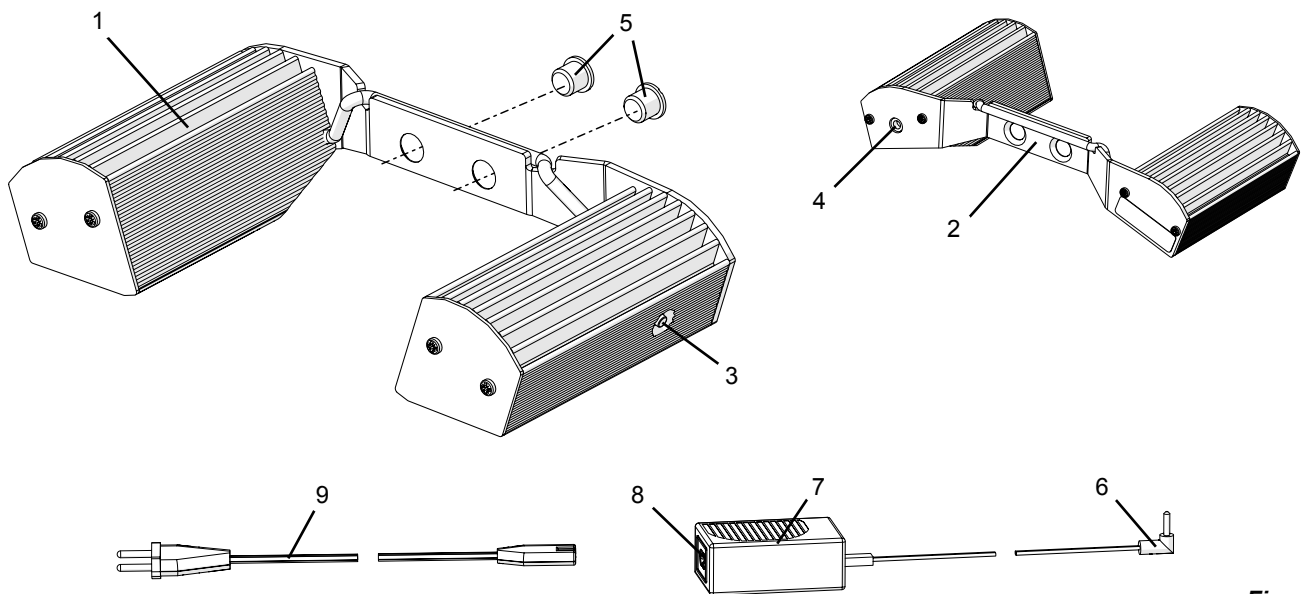

Fig. 1
- ⇒ Plug the mains lead (9, Fig. 1) in the mains input (8, Fig. 1) on the mains adapter (7, Fig. 1).
The On / Off button (3, Fig. 1) is used to switch the LED lights on and off and to change to the dimmer function.